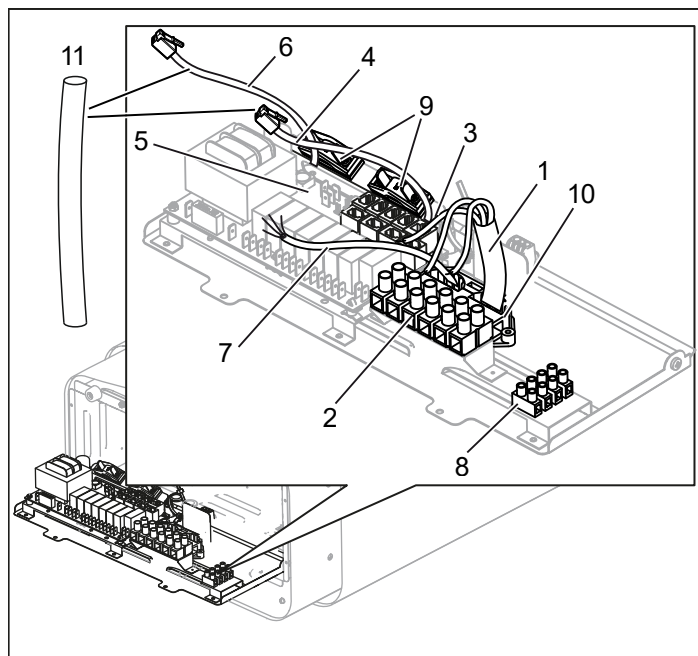
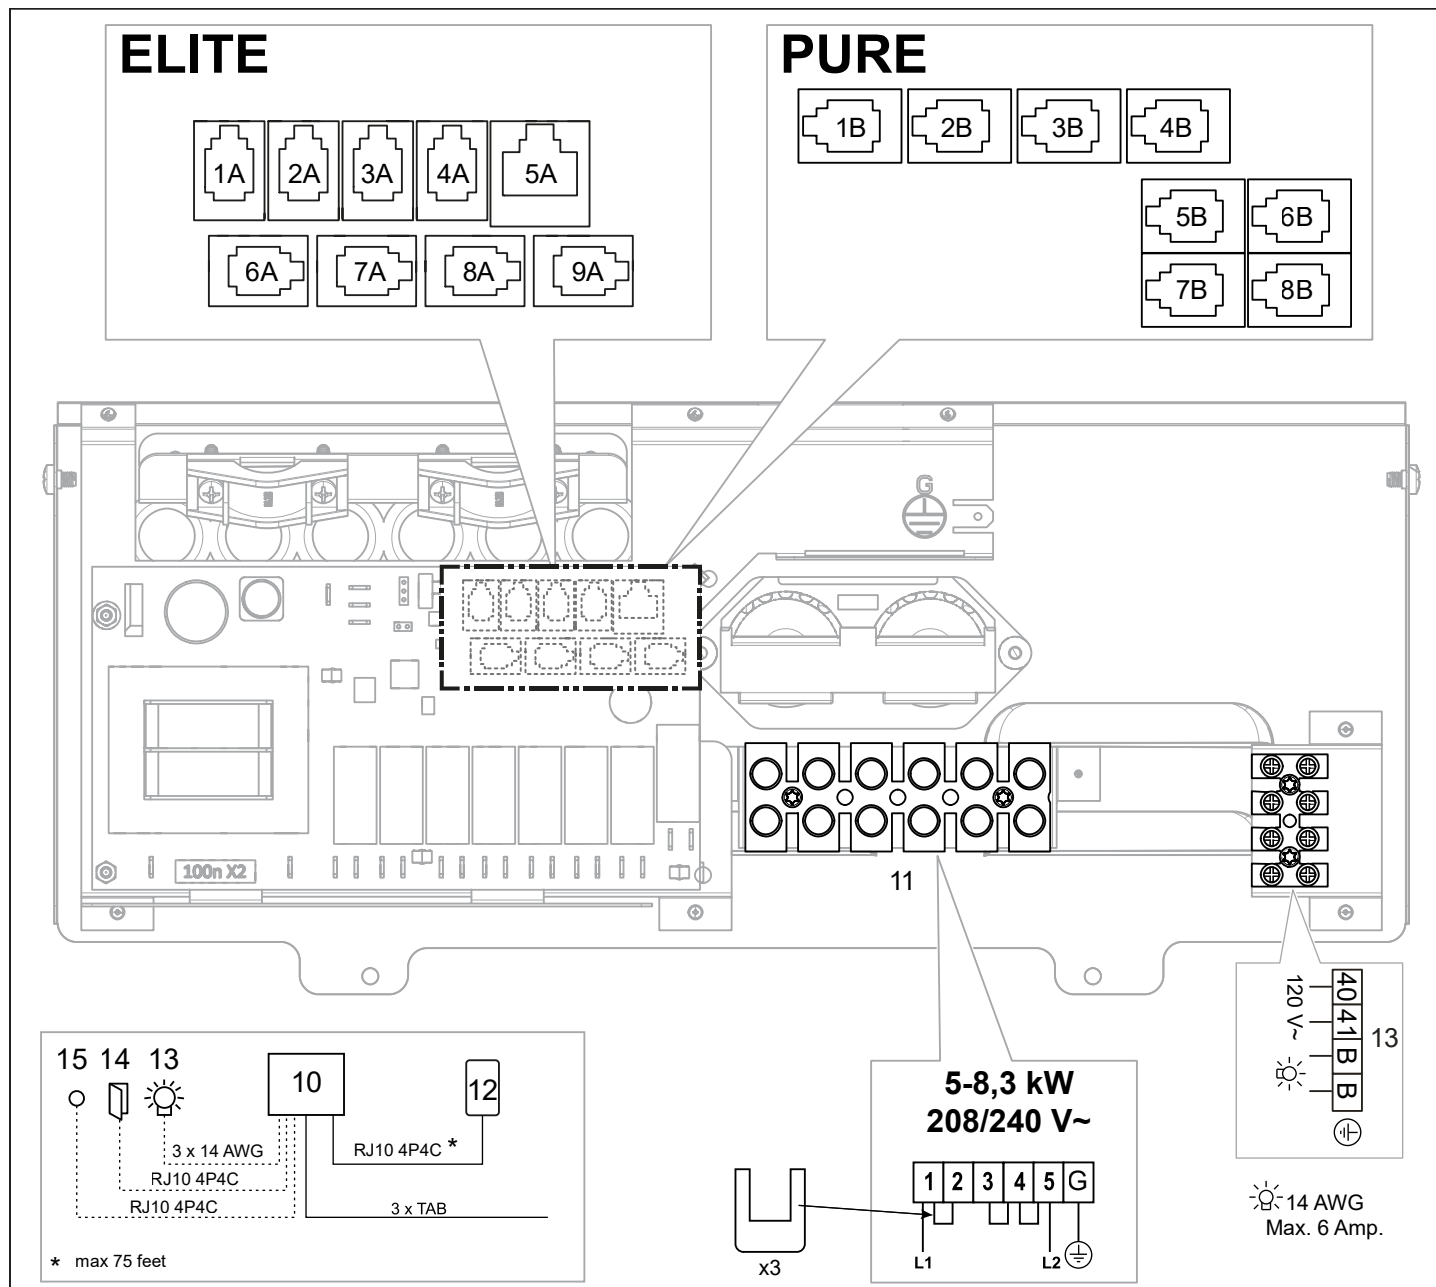

Figure 10: Circuit board
Figure 18: Wiring diagram
3. Connect the electrical cable (1) to the terminal (2) (see Figure 10) according to the wiring diagram (see the Connection/wiring diagram section, page 8).
4. Run the cables for the control panel and the temperature sensor through the cable grommets (3). Connect the control panel cable (4) to one of the four RS485 contacts (positions 6-9) (see Figure 10) according to the wiring diagram (see the Connection/wiring diagram section, Fig 18 page 8).
5. Connect the humidity- and temperature sensors cable (6) to one of the four RS485 contacts (positions 6-9) (5) according to the wiring diagram (see the Connection/wiring diagram section, Fig. 18 page 8).
6. Connect the light cable (if used) (7), see Figure 10, to the terminal (8) according to the wiring diagram Figure 18.
Contact Tylö Customer Service before connecting to voltages or numbers of phases that are not listed in the wiring diagram Figure 18.